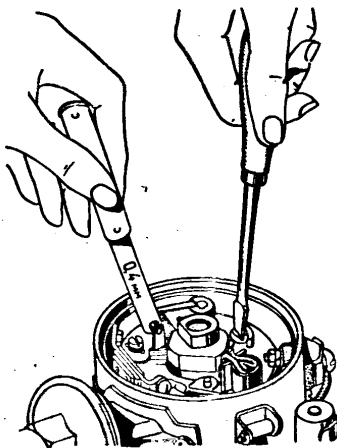
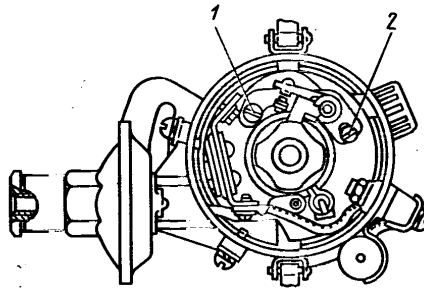

Fig. 23. Adjusting Breaker Point Gap
Fig. 24. Distributor:
1. Keep the distributor clean and dry. Wipe the breaker contact points with chamois leather. If the points are worn or burned, level them up. Check the breaker point gap which should be 0.35 - 0.45 mm with the points fully open (Fig. 23). To perform the adjustment, loosen lock screw 1 (Fig. 24) and turn adjusting screw 2.